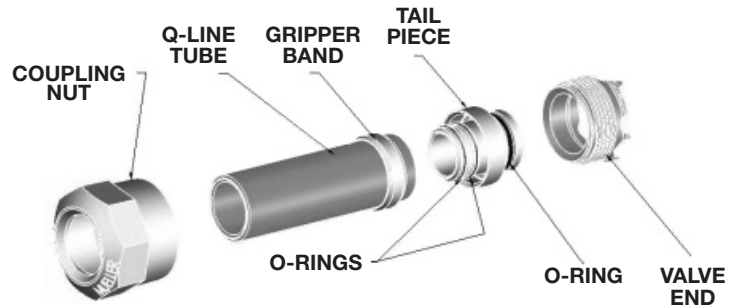

Fig. 1
4. Slide the coupling nut and gripper band over tubing as illustrated. (Fig. 1)